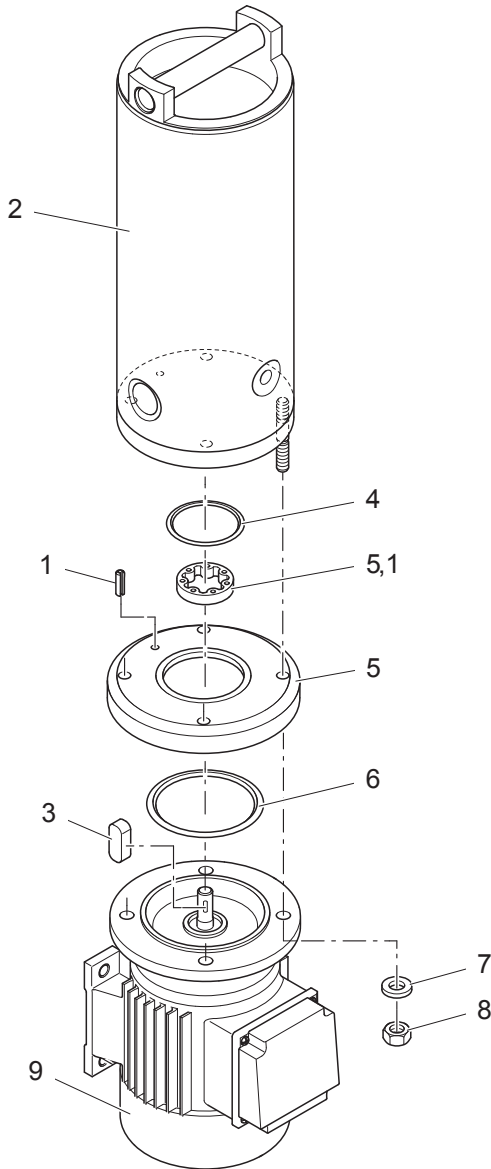
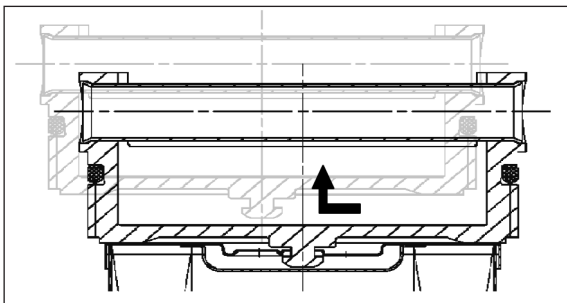

Fig. 5: Exploded view of the off-line filter unit
Fig. 6: Releasing the fixture at the cover / filter element
- › Always replace the O-rings (4, 6, fig. 5) by new spare parts when changing the pump / motor. (Order-no. see spare parts list from page 30 on).
1. Attach the motor (9) to the corresponding brackets (see assembly kit page 13).
2. Insert outer and inner rotor (5.1) into the corresponding section of the pump plate (5) (in any position).
4. Fit the pre-assembled pump plate (5, 5.1, 4, 6) onto the motor (9).
5. Insert the key (3) of the motor shaft into one of the four key grooves of the inner rotor.
6. During assembly, make sure that the O-ring (6) is seated in the O-ring groove and is not squeezed between the motor and the pump plate.
7. The hole for the roll pin (1) must be opposite the terminal box on the motor.
9. Reassemble the "filter tube with housing" module (2) with the pump plate and the motor.
10. When mounting the filter tube, make sure that the O-ring (4) is seated in the O-ring groove and is not squeezed between the pump plate (5) and the housing (2).
Follow the steps below to change the filter element (see also Fig. 5 and Fig. 6):
7. Release the filter element from the cover by moving it as shown in Fig. 6.